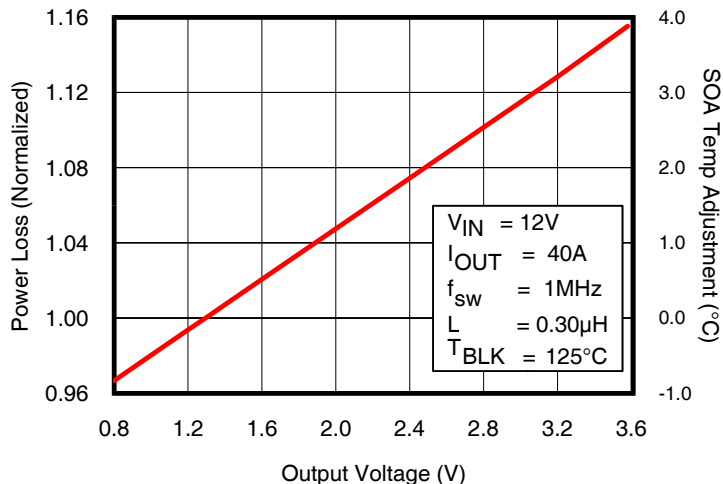

Fig. 4: Normalized Power Loss vs. V_{OUT}
- (Fig. 4) Normalized power loss for output voltage ≈ 1.14
- (Fig. 4) SOA Temperature Adjustment for output voltage $\approx 3.3^{\circ}\text{C}$